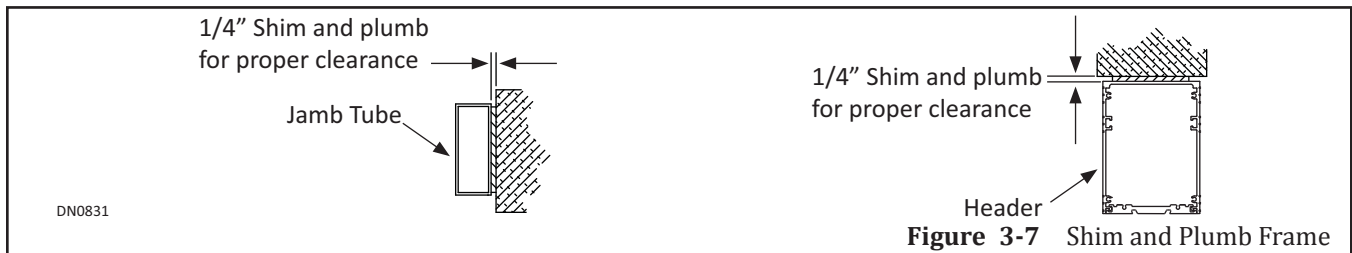

Figure 3-7 Shim and Plumb Frame
6. Plumb Jamb tubes in both planes to ensure the rough opening allows a 1/4 inch clearance. Please see Figure 3-7.